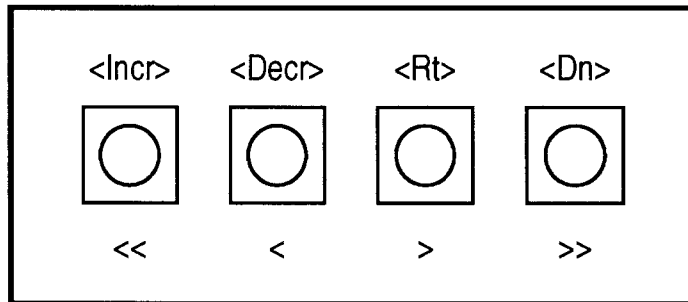

Figure 3–8. Phase adjustment switches.
4. Press <Function> until **C.** appears in the LED display. A cursor consisting of two crossed arrows pointing right and down (as shown in Figure 3–5) appears on the monitor.
1. Open segments 8 and 10 of the Operational Selection switch (S11). A row of dashes appears in the LED display to indicate that the VITS 201 is in genlock test mode. This changes the function of the <Increment>, <Decrement>, <Right>, and <Down> momentary switches to phase adjustment, as shown in Figure 3–8.